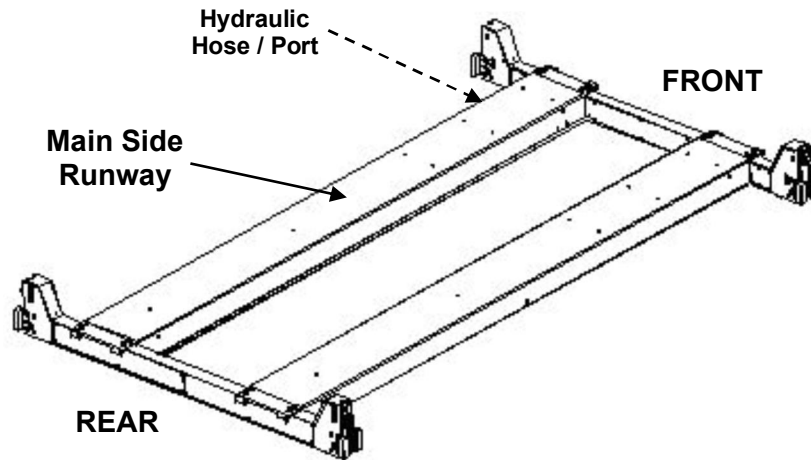

Fig. 4
- 1) Position each runway in the predetermined location, making sure the jack rails on each runway are installed to the inside. Be aware of the specific location of the Main Side power Runway, making sure the hydraulic hose connection is positioned to the front of bay. Fig 4.
- 3) Place the Front & Rear Crossbeams at each end of runways, as shown in Fig 4.